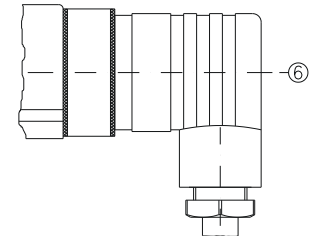

Fig. 10
- ↪ Plug the cable socket ② on the connector ① and tighten the central screw ⑥ (⇒ Fig. 10).